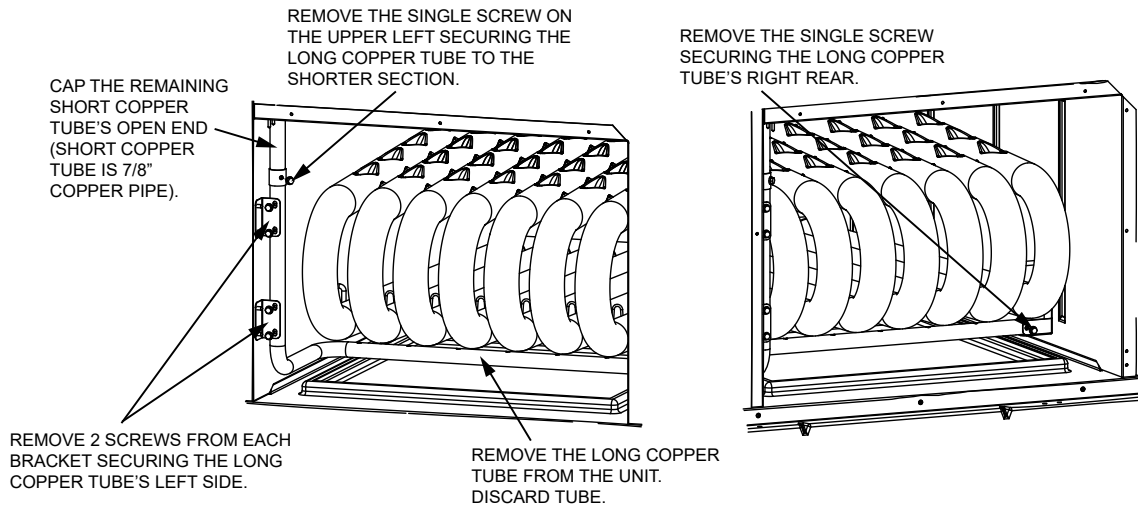

FIGURE 4
- 3 - In the supply air section, the long copper tube must be removed from the unit before proceeding. Refer to FIGURE 4.